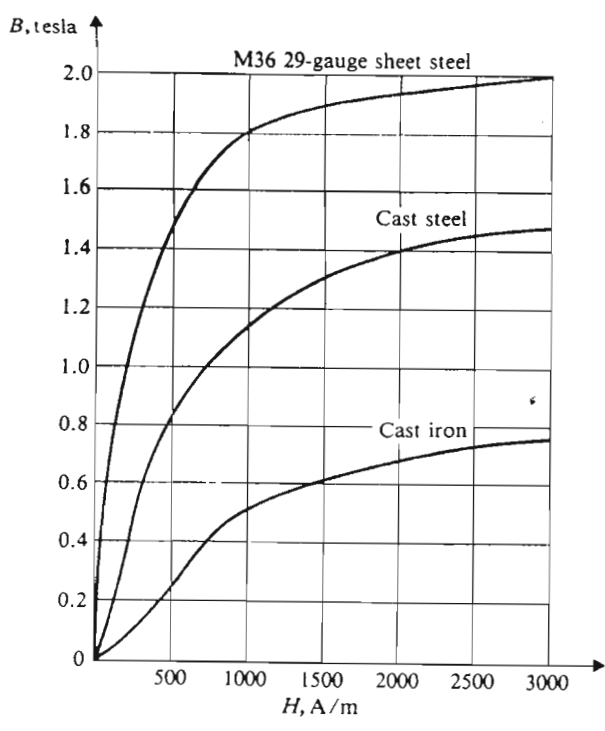
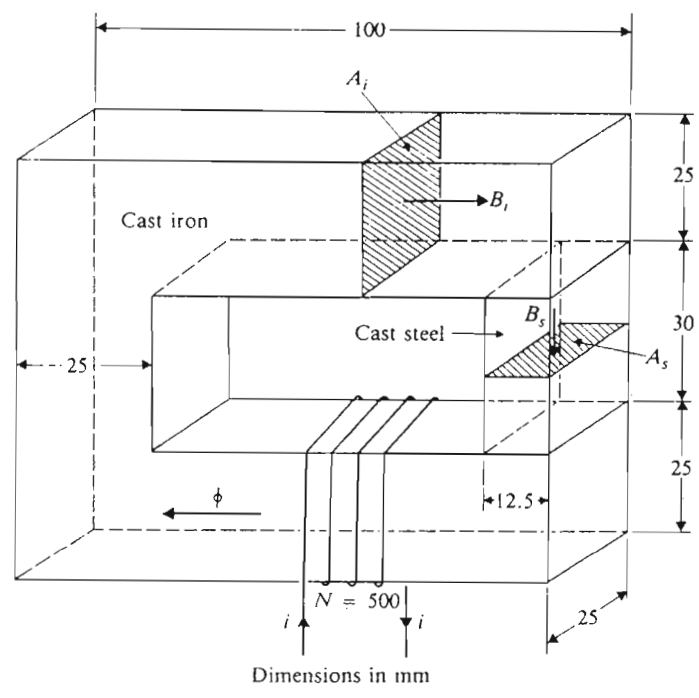

Fig. 1.7 Magnetization curves.
Fig. 1.32 Magnetic system of two different materials for Example 1.5.
**Example 1.5** In the magnetic system shown in Fig. 1.32, employ the magnetization curves of Fig. 1.7 to determine:
From Fig. 1.7,